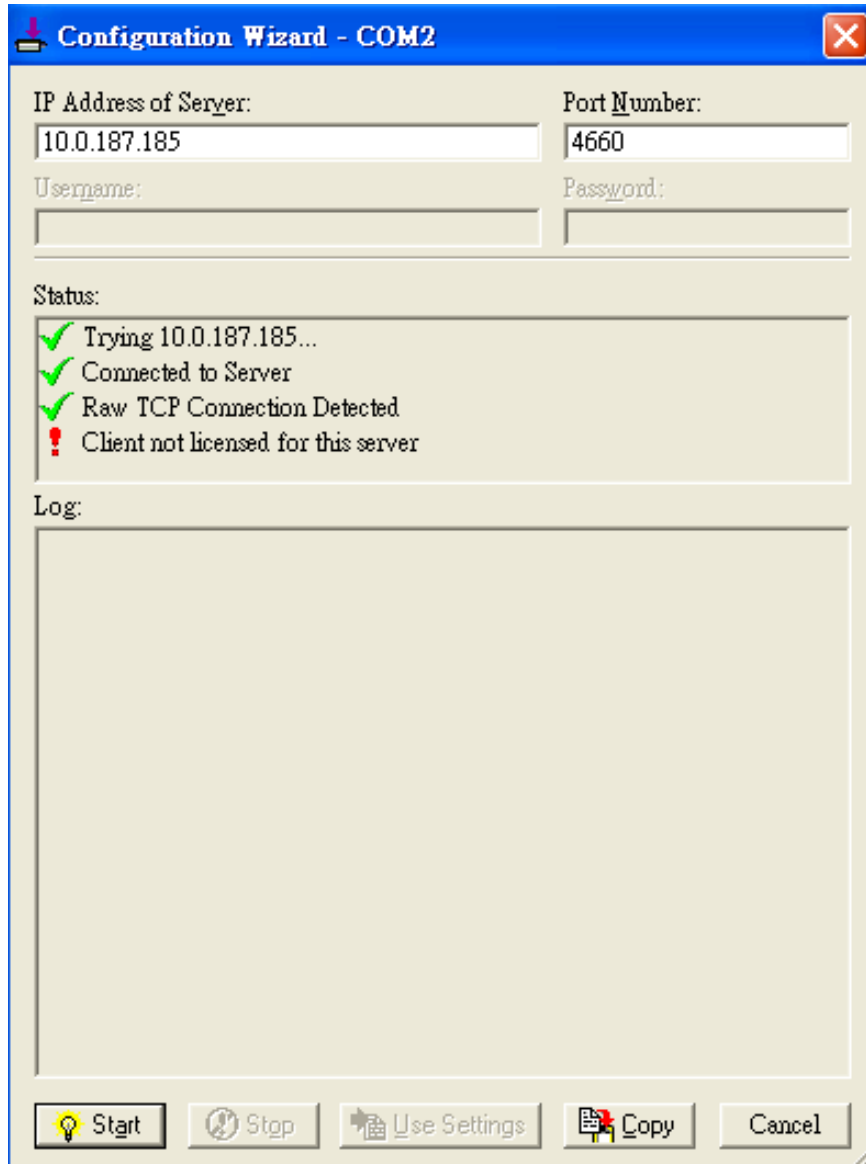

Figure 6.12 Error of Client not licensed for this server
- If the status reports with a check with a message “**Raw TCP Connection Detected**” and an exclamation mark with a message “**Client not licensed for this server**” as shown in Figure 6.12. Please enable the Virtual COM option in the serial Device server.